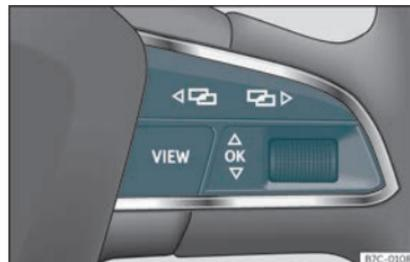

Fig. 61 Right side of the multifunction steering wheel: buttons to the menus and information displays on the instrument panel.
As long as a priority 1 >>> page 68 warning is active, it will not be possible to access any menu. Some warnings can be confirmed and hidden with the button **OK** of the multifunction steering wheel >>> **Fig. 61**.
- If a message or vehicle symbol is displayed, press the button **OK** >>> **Fig. 61**; if necessary, several times.
- To change menus, use buttons  or  >>> **Fig. 61**.
- To open the menu or the information displayed, press the button **OK** >>> **Fig. 61** or wait
- In the menu displayed, turn the right thumbwheel of the multifunction steering wheel >>> **Fig. 61** until the desired option of the menu is highlighted. The option appears framed.
- Press the button **OK** >>> **Fig. 61** to make the required modifications. A mark indicates that the system or function is activated.
Press the button **<** or **>** >>> **Fig. 61**.